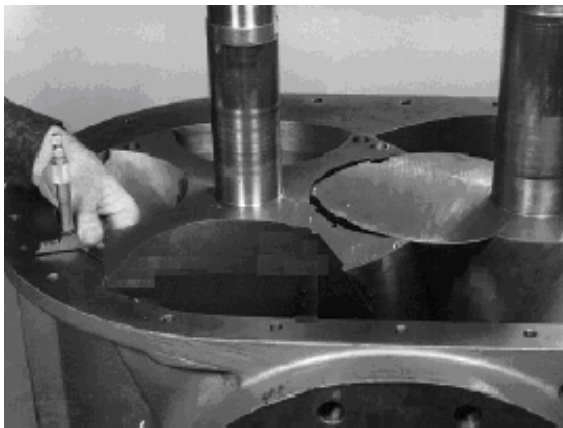

FIGURE 7- 9 – DEPTH MICROMETER
- With a depth micrometer (FIGURE 7- 9, page 43), measure the distance from the end of the rotor lobes to the end of the housing. Rotate rotors to check each lobe and record the **largest micrometer reading**. If the measurement varies more than .005", remove the rotors and check for burrs on the gear end carrier face and the end of the rotors. To the largest micrometer reading add the Total End Clearance shown in the clearance chart, (FIGURE 7-8, page 43), plus, .002" for crush fit, to determine the thickness of the shim set.